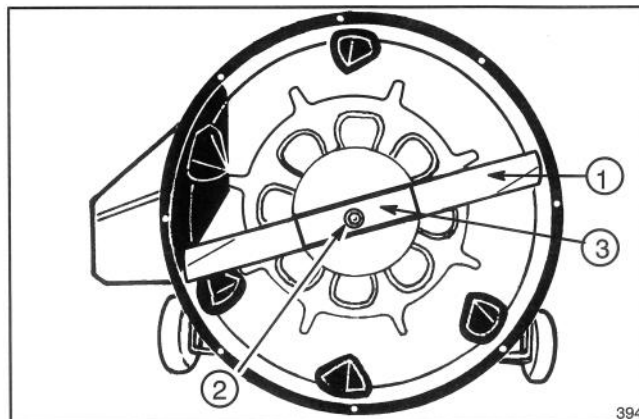

Figure 22
- Grasp end of blade using a rag or thickly padded glove; then remove blade bolt, curved washer, blade stiffener and blade (Fig. 22).
9. In sequence, install blade, blade stiffener, curved washer and blade bolt (Fig. 22). The concave side of the curved washer must point toward the blade. Tighten blade bolt to 45-60 ft-lb (61-81 N·m).
6. Since rider is tipped on end, check condition of blade (Fig. 22).